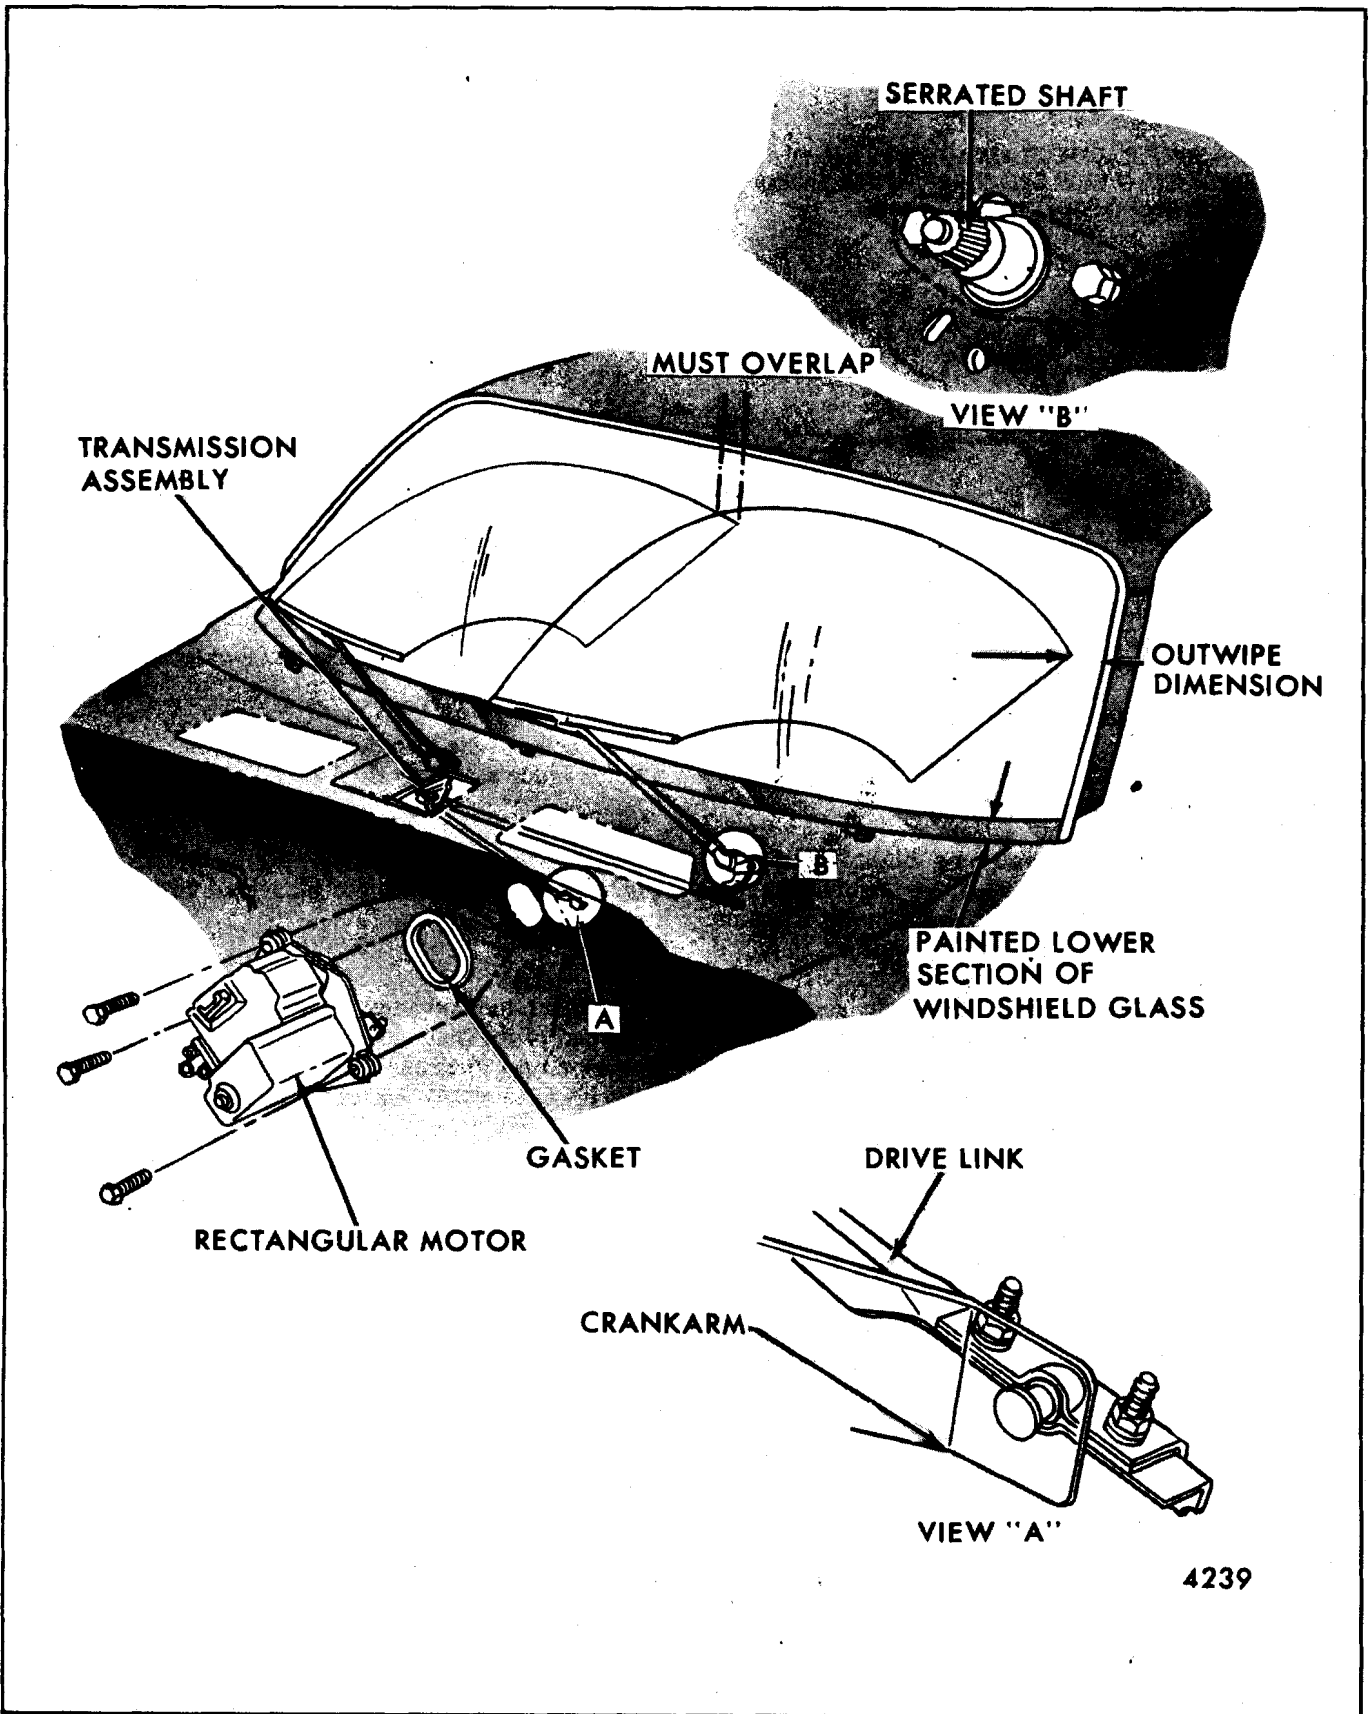

Fig. 2-6-Wiper Installation and Wipe Pattern - "F" Styles
The parked position for "F" styles is indicated in Figure 2-6. On "A-X" styles, the tip of the left blade should rest 1.50" above top edge of windshield lower reveal molding. The tip of the right blade should rest 1.95" for "A" styles and 1.25" for "X" styles above top edge of windshield lower reveal molding. The outwiper dimension shown in figure 2-6 is as follows:
3. Loosen, do not remove, transmission drive link to motor crankarm attaching nuts (Fig. 2-6) and disconnect drive link from crankarm.